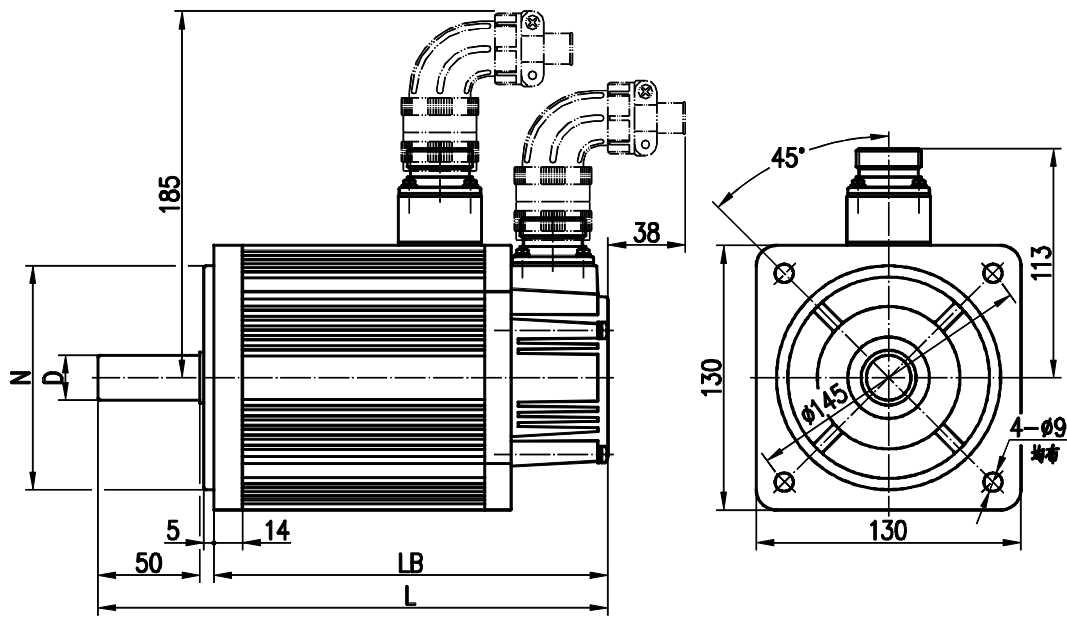

Fig. 3
6.3 See Fig.3 about the installation dimensions of 130SJT